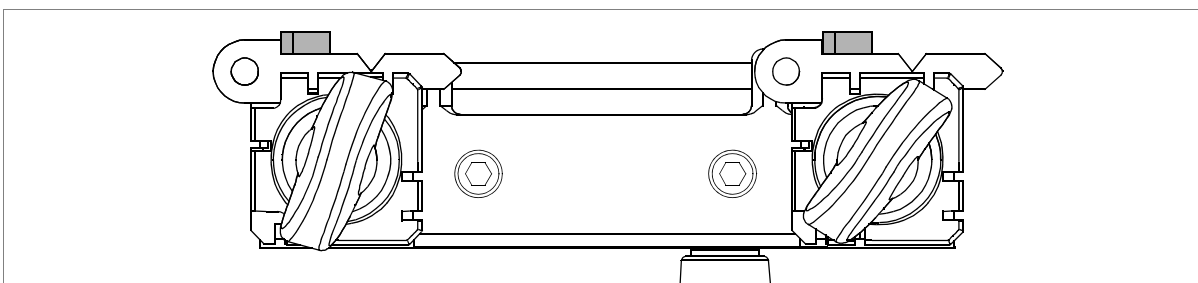

Fig. 16
- 4) Turn the gauge rod (D2) towards the operator so that the gauges come into contact with the adjusting keys (fig. 16). Lower the gauge rod.